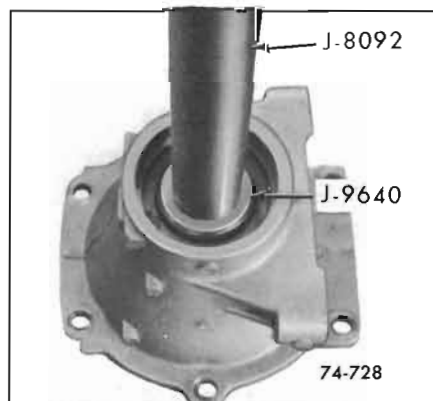

Figure 74-728
a. Use J-8092 Driver Handle and Tool J-9640 remove. See Figure 74-728.
b. Using Tool J-9640 install bushing. See Figure 74-728.